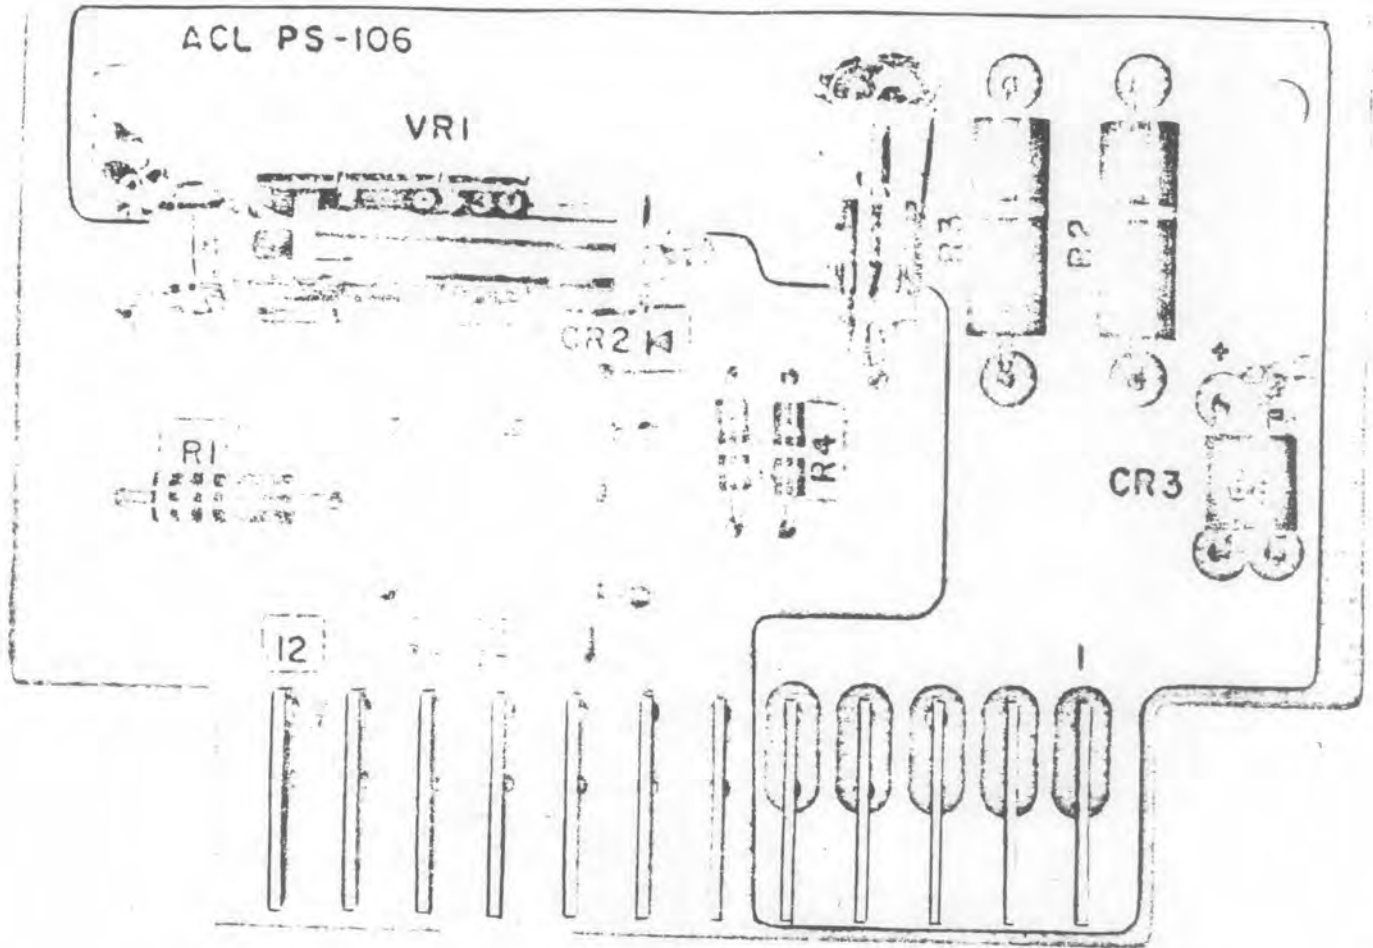

Figure 5-15. High Voltage Power Supply, Module A3
- a. Locate the high voltage power supply and remove the three screws which attach the protective cover over the module board, Figure 5-15.